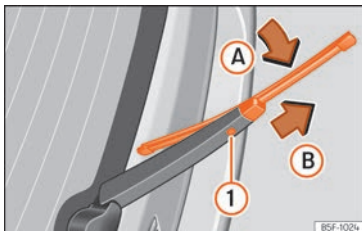

Fig. 45 Changing the rear wiper blade
- Turn the blade slightly » **Fig. 45** (arrow **A**).
- Hold down the release button ❶ while gently pulling the blade in the direction of arrow **B**.
- Insert a new blade of the **same length and type** in the rear wiper arm in the opposite direction to the arrow **B** and hook into place button ❶.